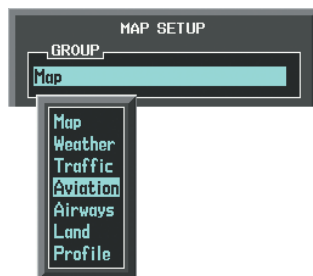

Figure 6-90 Navigation Map Page Setup Menu
- 4) Turn the small **FMS** Knob to select the Aviation Group and press the **ENT** Key (Figure 6-90).